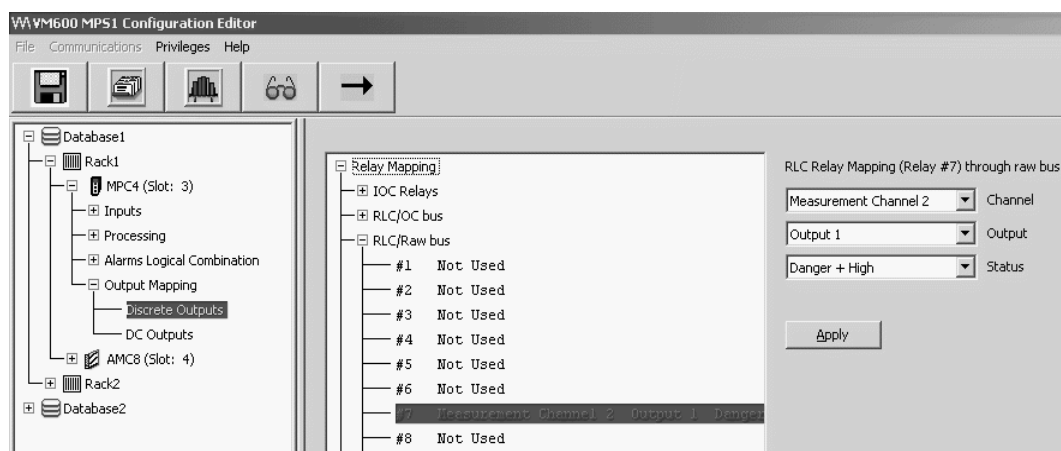

Figure 9-36: VM600 MPSx software window to configure the Raw Bus
- 6- Using the VM600 MPSx software, select the **Discrete Outputs** node (a child of the **Output Mapping** node) in the tree structure (left). Then expand the **RLC/Raw bus** node in the main window (right) and select the relay in question (between 1 and 16). See Figure 9-36.
The user must then use the VM600 MPSx software to select Relay 7 from the 16 relays available in the **RLC/Raw bus** node. Then, the Danger+ alarm for Output 1 of Channel 2 can be assigned to this relay (see Figure 9-36).